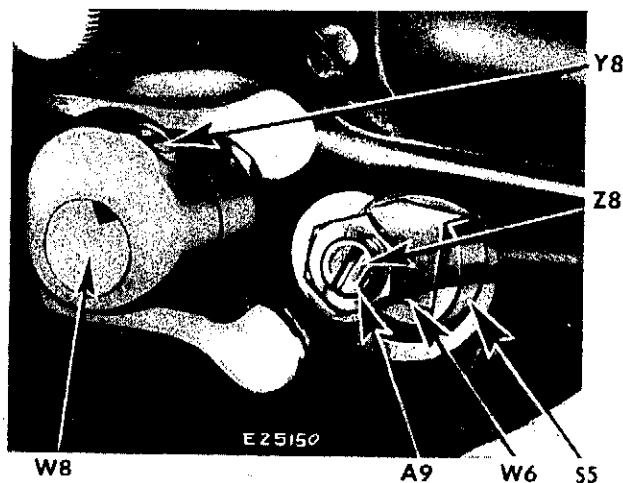
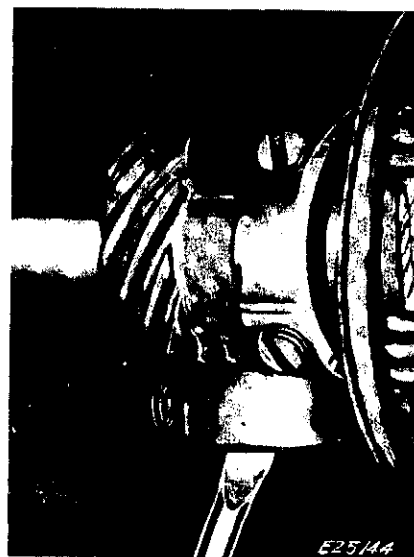

Fig. 159. X-ray View of Block and Slide
Fig. 160. Removing End Play from Shaft
2. Loosen set screw **Y8, Fig. 159** and remove cam from shaft **W8**.
4. Lift fork from machine while guiding slide block **W6, Fig. 159** from slide.
1. While guiding the two bright bearing surfaces of slide block **W6, Fig. 159** into slide **S5** on bight mechanism, be certain shaft **W8** is between prongs of vibrator fork.
3. Set cam on shaft **W8, Fig. 159** with set screw **Y8** over the notch in shaft and two edges of fork over the cam surface.
4. While pressing cam in **Fig. 159** toward fork, push gear in **Fig. 160** toward cam with a screwdriver to eliminate excessive play and noise. Securely tighten set screw **Y8, Fig. 159** without binding machine. If machine binds, reset cam.